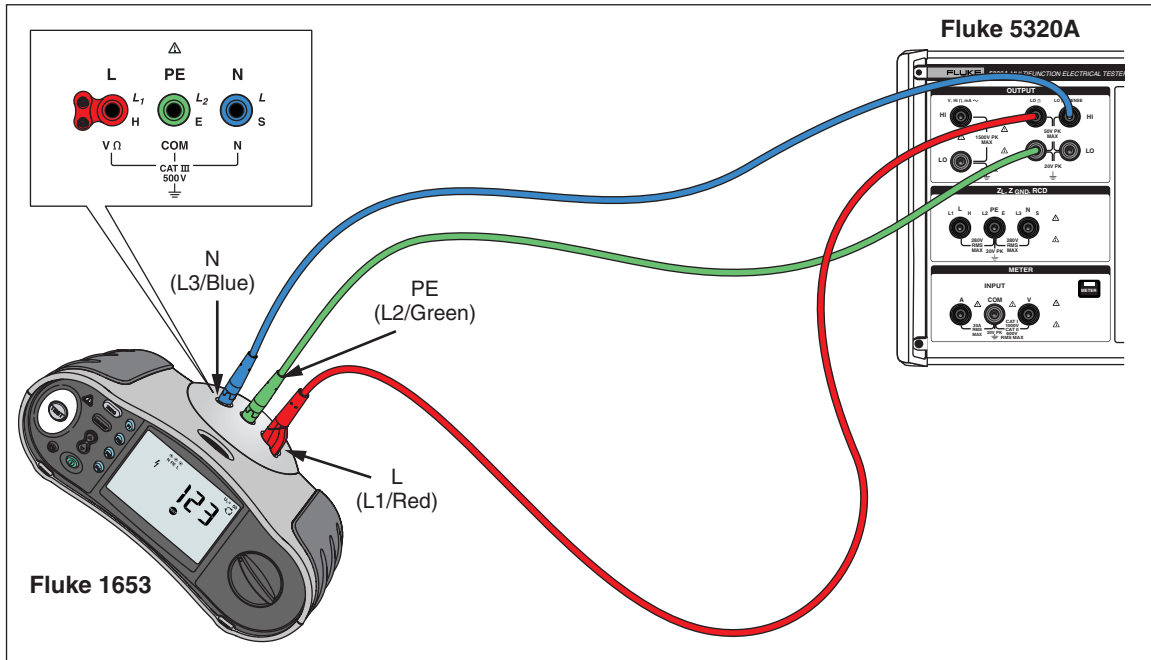

Figure 7-2. Earth Resistance Calibration Connections
1. Using Figure 7-2 for a reference, connect the UUT to the Calibrator's **LO $\Omega$  HI** and **LO** terminals as well as the **LO $\Omega$  Sense HI** terminal.